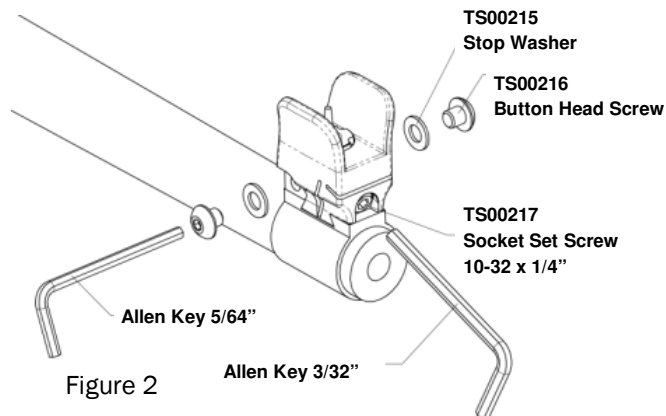

Figure 2
5. Remove the two button head screws (TS00216) and stop washers (TS00215) from the sight tower, if they are assembled on the tower. (See Figure 2)